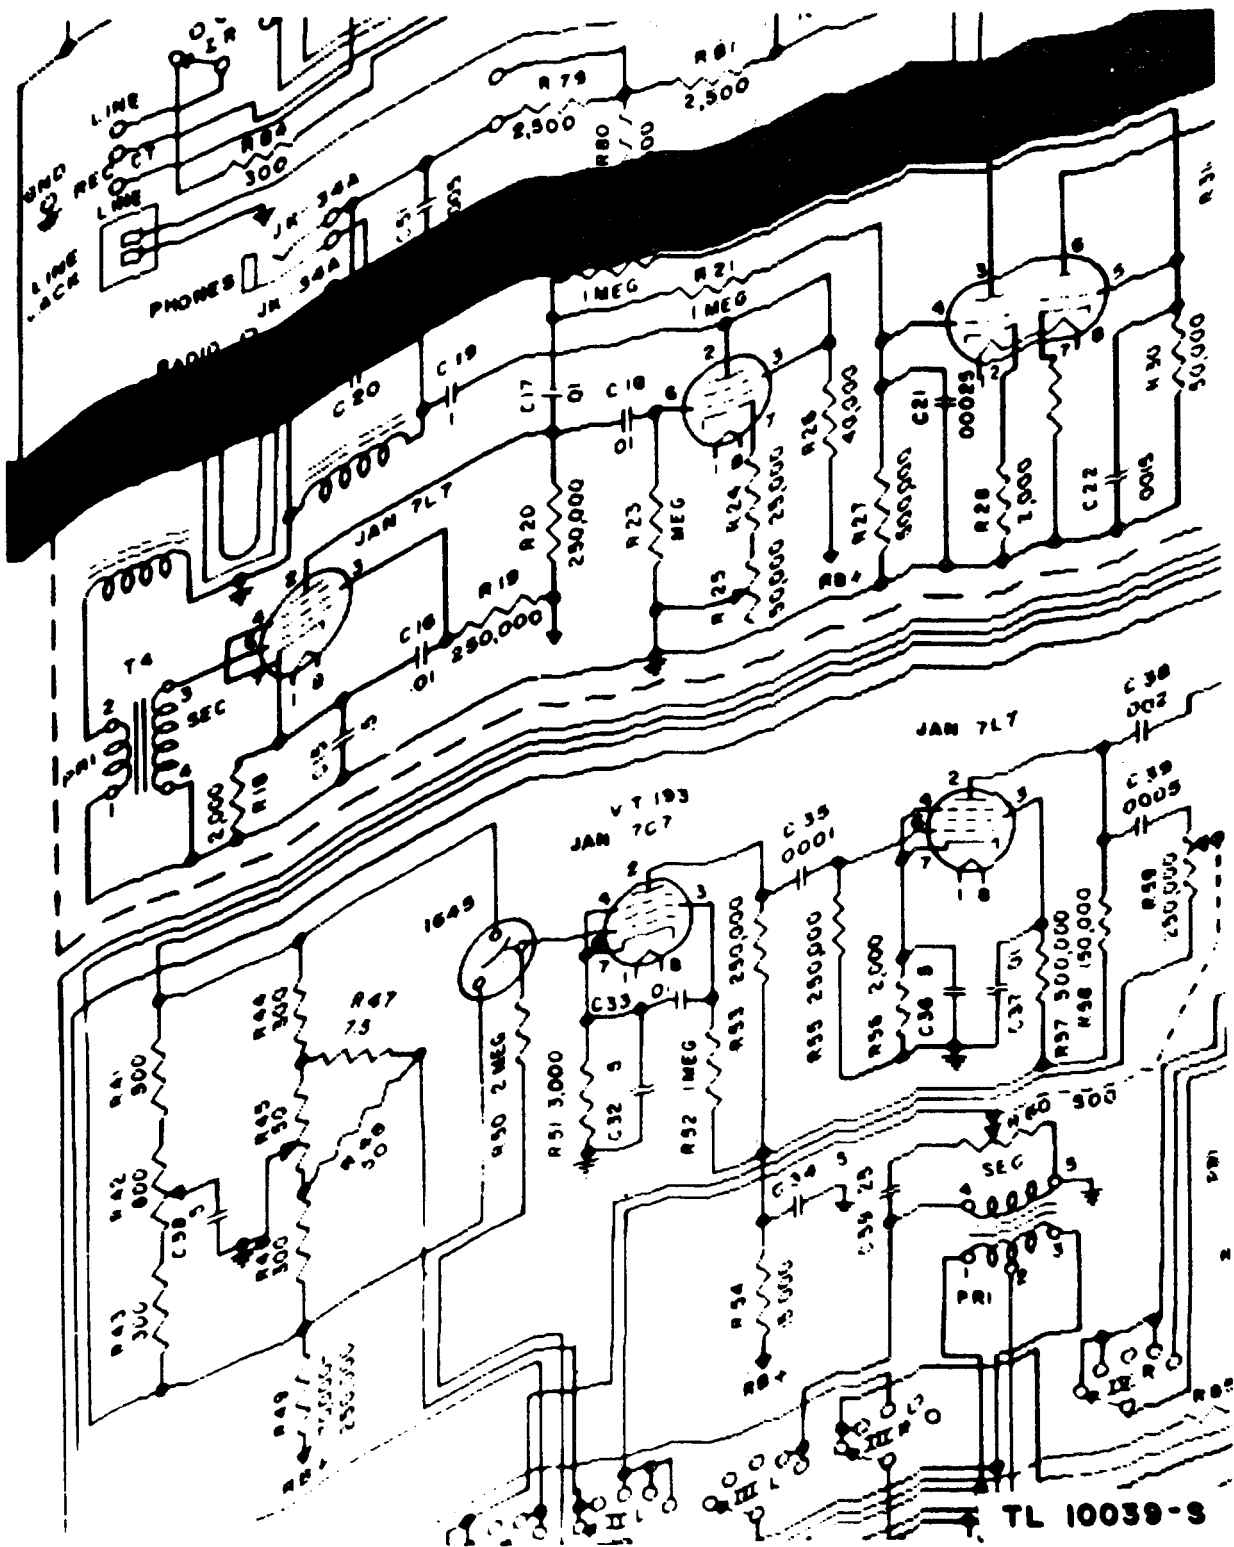

Figure 103. Example of irregular skew.
c. Irregular Skew. If the received copy shows an irregular skew (fig. 103), it is probable that the clutch of the transmitter or receiver motor is slipping. This slippage often can be traced to a bind in the drum system. To determine whether the defect is in the transmitter or receiver, examine the recorded copy with a magnifying glass. If the individually recorded elemental areas are in approximate straight alignment, the defect is in the transmitter system. If they follow the contour of the skew, the trouble is in the recorded system. When receiving on direct recording paper, observe the direction of the skew before removing the paper from the drum. If the right-hand side of the copy is skewed toward the rear of the machine, the clutch is slipping in the